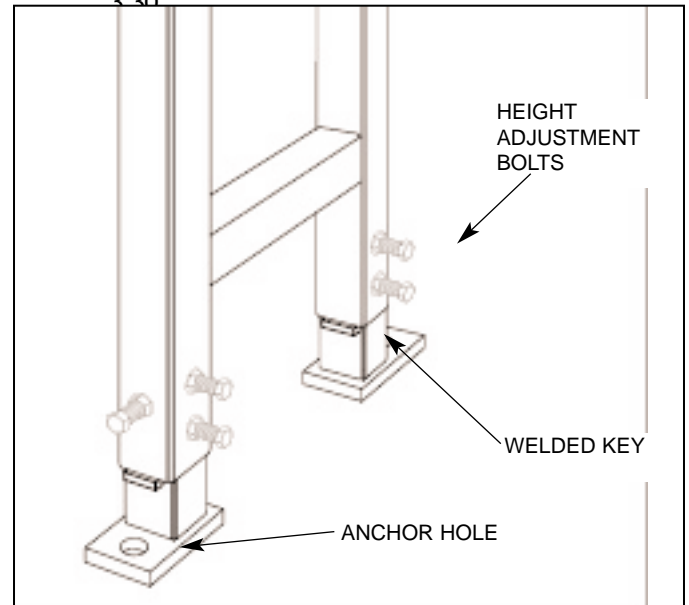

Figure 3.27 ADJUSTABLE LEGS.
3.9.1.4 Bolt conveyor to floor (figure 3.27).
3.9.1.7 Weld 1/2" sq. X 3" [13mm² X 76mm] key to secure legs (figure 3.27).
3.9.2.4 Bolt conveyor to floor as shown in figure 3.27.
3.9.3.5 Anchor pallet transfer stand to floor (figure 3.27).